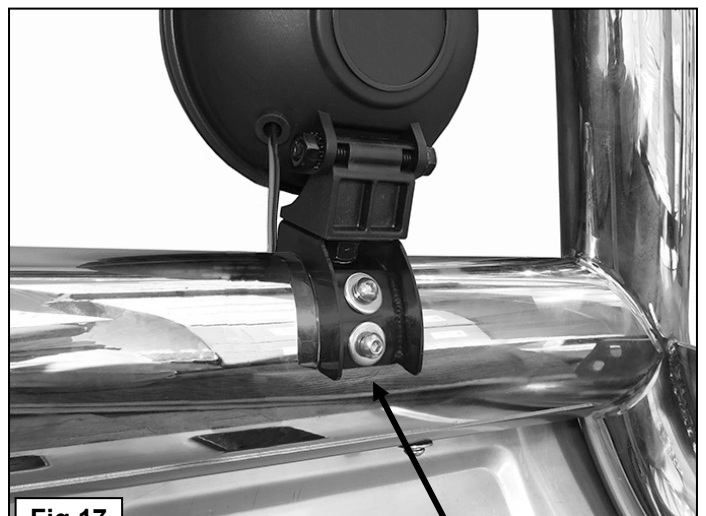

Fig 17
12. If aftermarket lights, (not included), are to be installed, remove the rubber plugs on the top of the cross bar. Select (1) Light Bracket, (**Figure 16**). Attach the light to the Light Bracket using the hardware included with the light. Attach the light and Bracket to the back of the Bull Bar with (2) 6mm Button Head Bolts, (2) 6mm Lock Washers and (2) 6mm Flat Washers, (**Figure 17**). Adjust the light as desired. **NOTE:** Depending on light design, repeated removal and reinstallation of the light and Bracket may be required for proper adjustment. Tighten all hardware once properly adjusted.